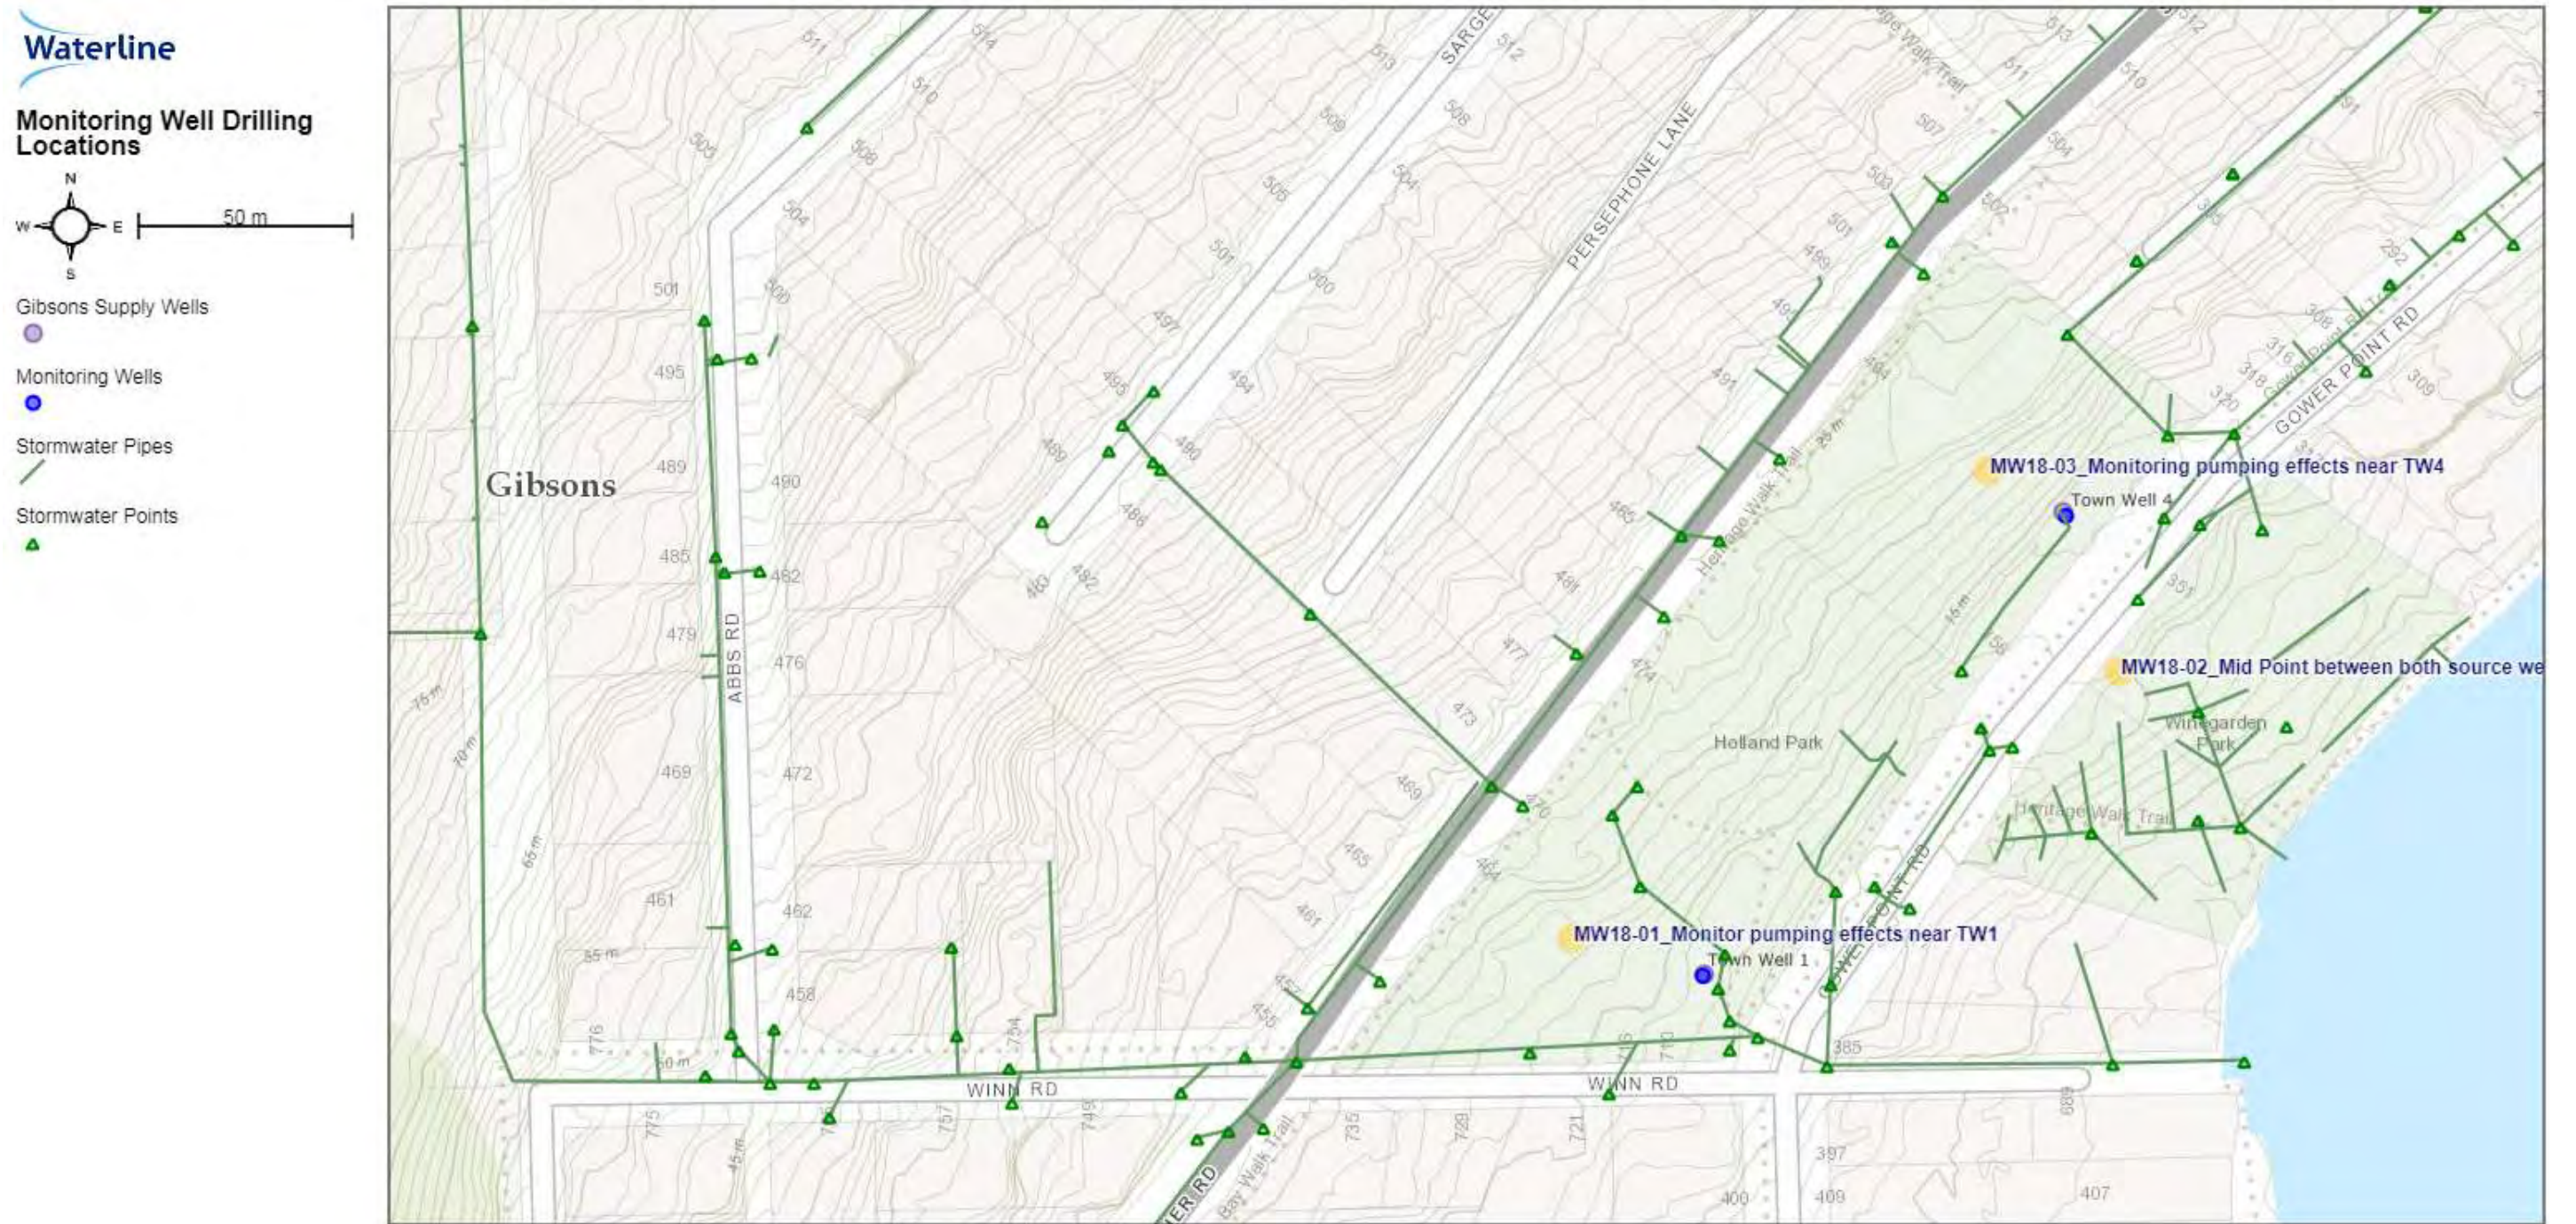

Figure 1: Monitoring Well Drilling Locations (Holland and Winegarden Parks)
1. Ensuring proper well control is in place prior to starting any drilling activities. The contractor should be capable of diverting artesian flow (range of 45 to 203 m³/day) to the nearest stormwater outfall system. There are multiple stormwater outfall points (>10) within a 100 m radius of the Holland and Winegarden parks (Figure 1).
3. Drilling vertically to the estimated total depth (TD) as noted in Table 1. All three monitoring wells will be logged by the hydrogeological consultant and the actual TD will be determined in the field based on observed geology.
8. The water produced during the development task should be diverted to the nearest stormwater outfall point (Figure 1). Sediment from the development water should be removed prior to entering the storm drain outlet. This could be achieved using a settling tank (e.g. roll off bin etc.) and pumping the water off the top of the tank. Also, sediments pads (e.g. hay bails etc.) could be laid near the discharge point as a second approach to filtering the water.